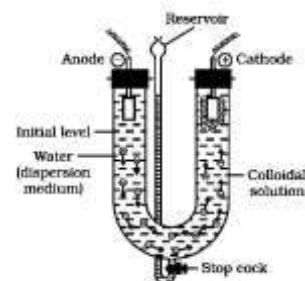

Fig. 5.13: Electrophoresis
19. **ELECTROPHORESIS:** The movement of colloidal particles towards positive or negative electrode in electric field is called electrophoresis. When electric potential is applied across two platinum electrodes dipping in a colloidal solution, the colloidal particles move towards one or the other electrode. . Positively charged particles move towards the cathode while negatively charged particles move towards the anode. (Fig. 5.13 page 142). **Electrophoresis provides an experimental proof to show that the colloidal particles are charged particles.**